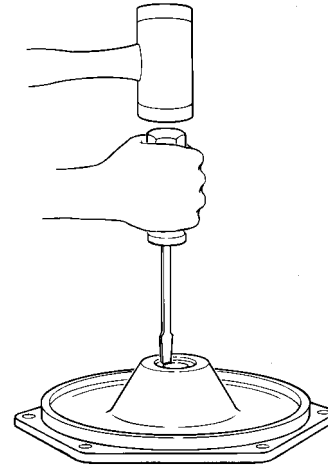

Figure 23 – Tap Out Seal
- Place seal plate half face down on flat surface and tap out stationary half of seal (see Figure 23).